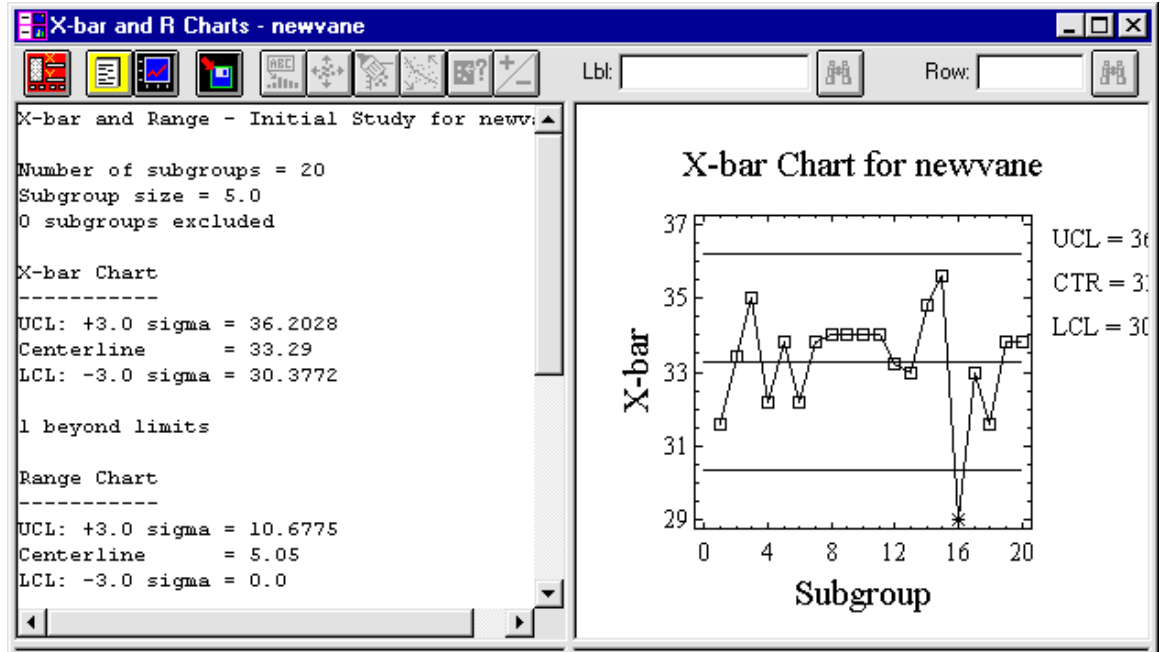

Figure 1-6. Analysis Summary and X-bar Chart in the Analysis Window
5. Place the mouse pointer in the Subgroup Numbers or Size text box, then type **5**, and click OK to display the Analysis Summary and X-bar Chart in the Analysis window (see Figure 1-6).